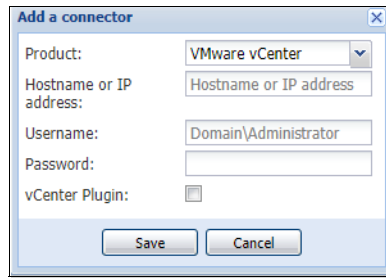

Figure 55 Connect an infrastructure connector
In this example, Figure 55 shows a VMware vCenter connector to be created. Note although the vCenter plug-in is not a requirement to manage nodes and VMs through UPM, it is an option to configure and is particularly good for large scale virtual environments that require many servers and VMs to be managed with UPM. Refer to “UPM installed as a plug-in” on page 58 for additional information on the benefits of UPM as a plug-in.
4. To configure UPM as a plug-in, check the vCenter plug-in option as shown in Figure 55.